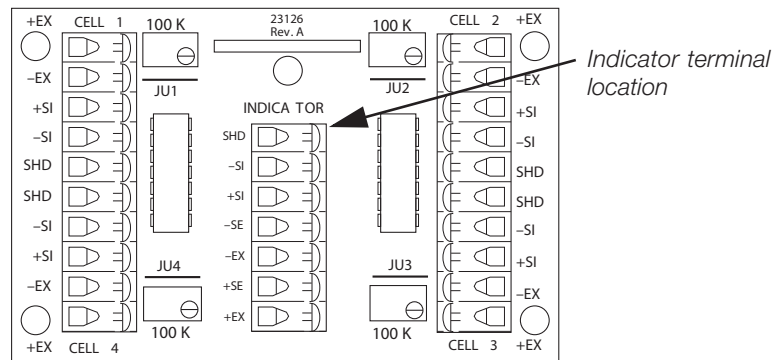

Figure 4-2. Junction Box Wiring Diagram
5. Connect the wires to the indicator terminal (Figure 4-2) as shown in Table 4-1.